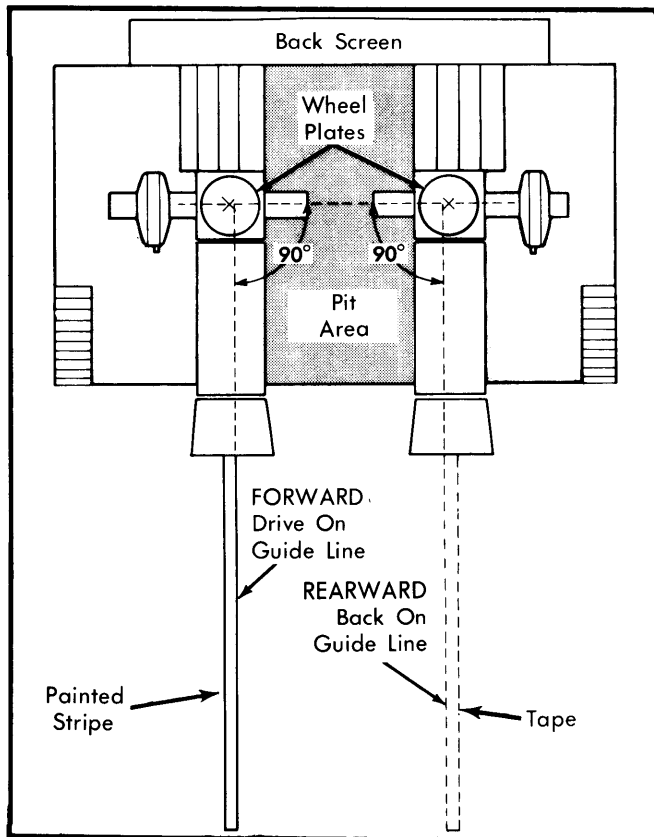

Fig. 16 Typical Alignment Machine Set Up For Eldorado & Seville Rear Wheel Alignment
1) Place tape on floor from alignment wheel plate rearward for 20 feet. See Fig. 16. Back vehicle onto alignment machine as straight as possible, with rear wheels on wheel plates.